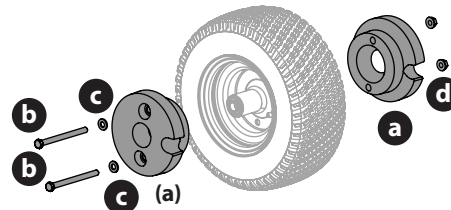

Fig. 56
2. Remove the two 25-lb weights (a) on each tire by removing the two hex screws (b), flat washers (c) and flange lock nuts (d) that secure them to the rims (Fig. 56).